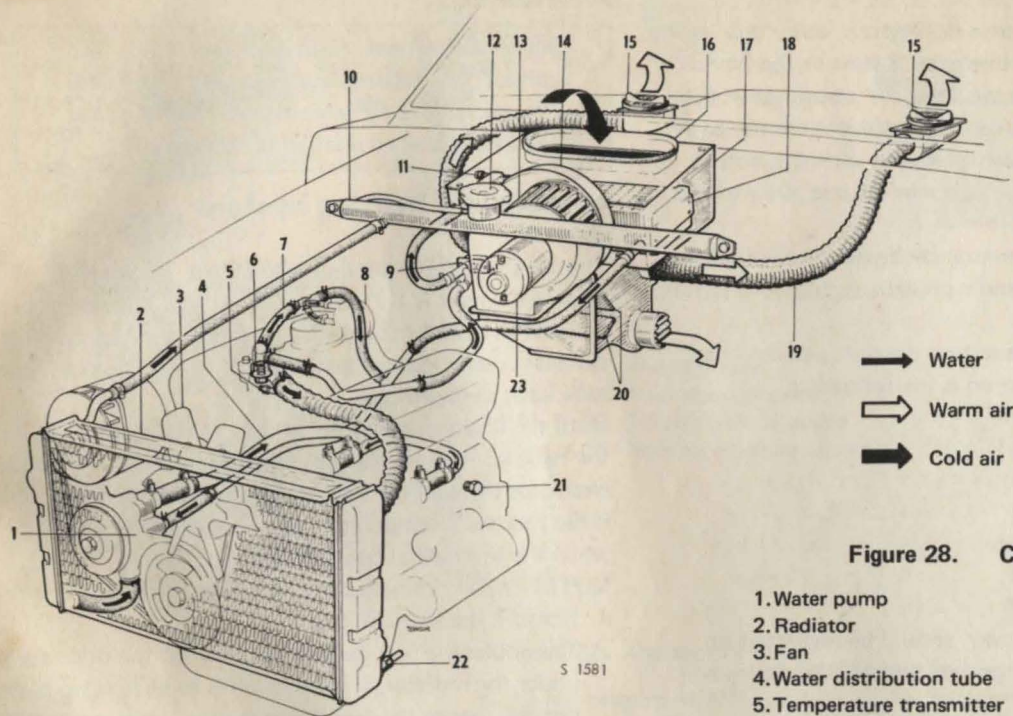

Figure 28. Cooling system
2. The coolant is first drained off through the drain valve under the radiator. If the system is to be drained completely, loosen the two hexagon plugs, one on each side of the lower part of the cylinder block, see Figure 28.